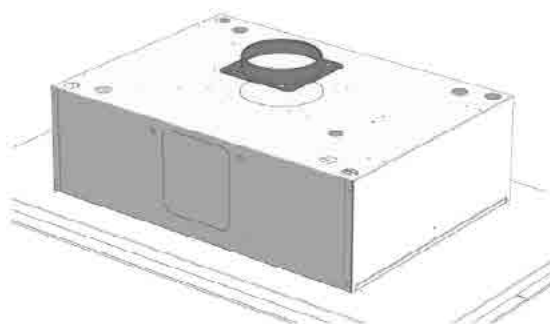

FIG.21
- › Install the air outlet with a joint diameter of 200mm to the middle of the hood. Fix it with the 8 screws supplied (Fig.21).